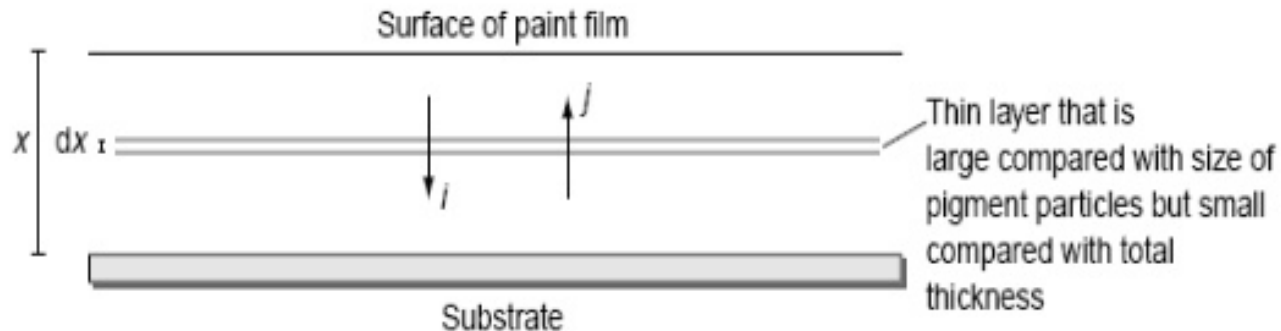

Figure 1.28 Kubelka–Munk analysis
- pigmented layer of thickness dx in a paint film (Figure 1.28). We consider separately